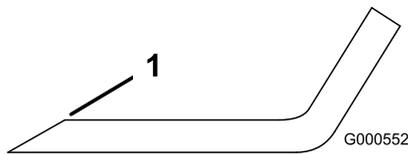

Figure 66
- Use a file to sharpen the cutting edge at both ends of the blade (Figure 66).
**Note:** If the blade is not balanced, file some metal off the end of the sail area only (Figure 66).